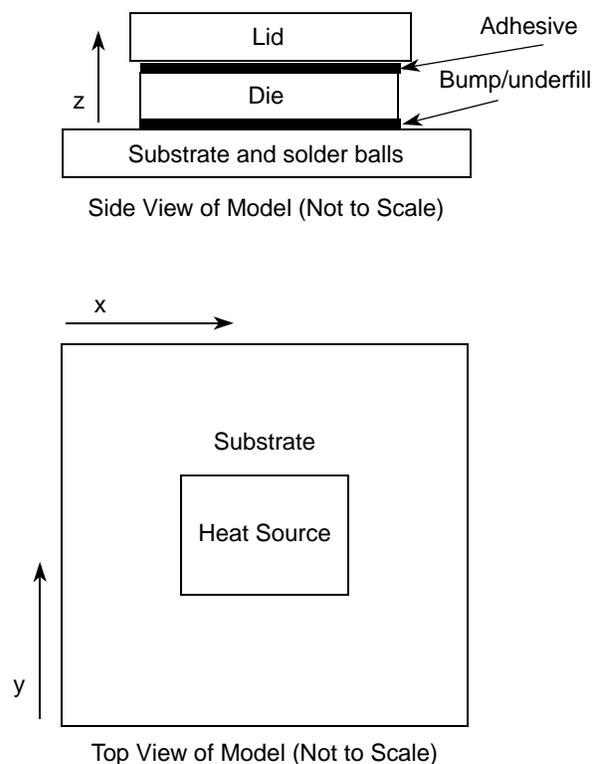

Figure 46. MPC8540 Thermal Model
2.0	<p>Section 1.1—Updated features list to coincide with latest version of the reference manual</p> <p>Table 1 and Table 2—Addition of SYSCLK to <math>OV_{IN}</math></p> <p>Table 2—Addition of notes 1 and 2</p> <p>Table 3—Addition of note 1</p> <p>Table 5—New</p> <p>Section 4—New</p> <p>Table 13—Addition of <math>I_{VREF}</math></p> <p>Removed Figure 4 DDR SRAM Input Timing Diagram</p> <p>Table 15—Modified maximum values for <math>t_{DISKEW}</math></p> <p>Table 16—Added MSYNC_OUT to <math>t_{MCKSKEW2}</math></p> <p>Figure 5—New</p> <p>Section 6.2.1—Removed Figure 4, “DDR SDRAM Input Timing Diagram”</p> <p>Section 8.1—Removed references to 2.5 V from first paragraph</p> <p>Figure 8—New</p> <p>Table 21 and Table 22—Modified “conditions” for <math>I_{IH}</math> and <math>I_{IL}</math></p> <p>Table 23—Addition of min and max for GTX_CLK125 reference clock duty cycle</p> <p>Table 27 —Addition of min and max for GTX_CLK125 reference clock duty cycle</p> <p>Table 29—Addition of min and max for GTX_CLK125 reference clock duty cycle</p> <p>Table 30—VOH min and conditions; <math>I_{IH}</math> and <math>I_{IL}</math> conditions</p> <p>Table 31—Min and max for <math>t_{MTXR}</math> and <math>t_{MTXF}</math></p> <p>Table 32—Min and max for <math>t_{MRXR}</math> and <math>t_{MRXF}</math></p> <p>Figure 23 and Figure 24—Changed LSYNC_IN to Internal clock at top of each figure</p> <p>Figure 18—New</p> <p>Figure 18—New</p> <p>Table 36—Removed row for <math>t_{LBKHOX3}</math></p> <p>Table 43—New (AC timing of PCI-X at 66 MHz)</p> <p>Table 53—Addition of note 19</p> <p>Figure 55—Addition of jumper and note at top of diagram</p> <p>Table 55: Changed max bus freq for 667 core to 166</p> <p>Section 16.2.1—Modified first paragraph</p> <p>Figure 46—Modified</p> <p>Figure 47—New</p> <p>Table 59—Modified thermal resistance data</p> <p>Section 16.2.4.2—Modified first and second paragraphs</p>